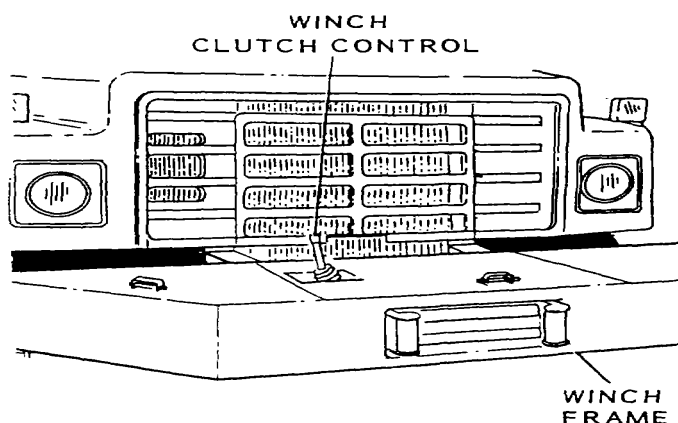

Figure 2-40 Winch Operation.
- a. Clutch Operating Procedures. The clutch is controlled by a lever located directly beside the winch, which is mounted on the front of the truck. See Figure 2-40.